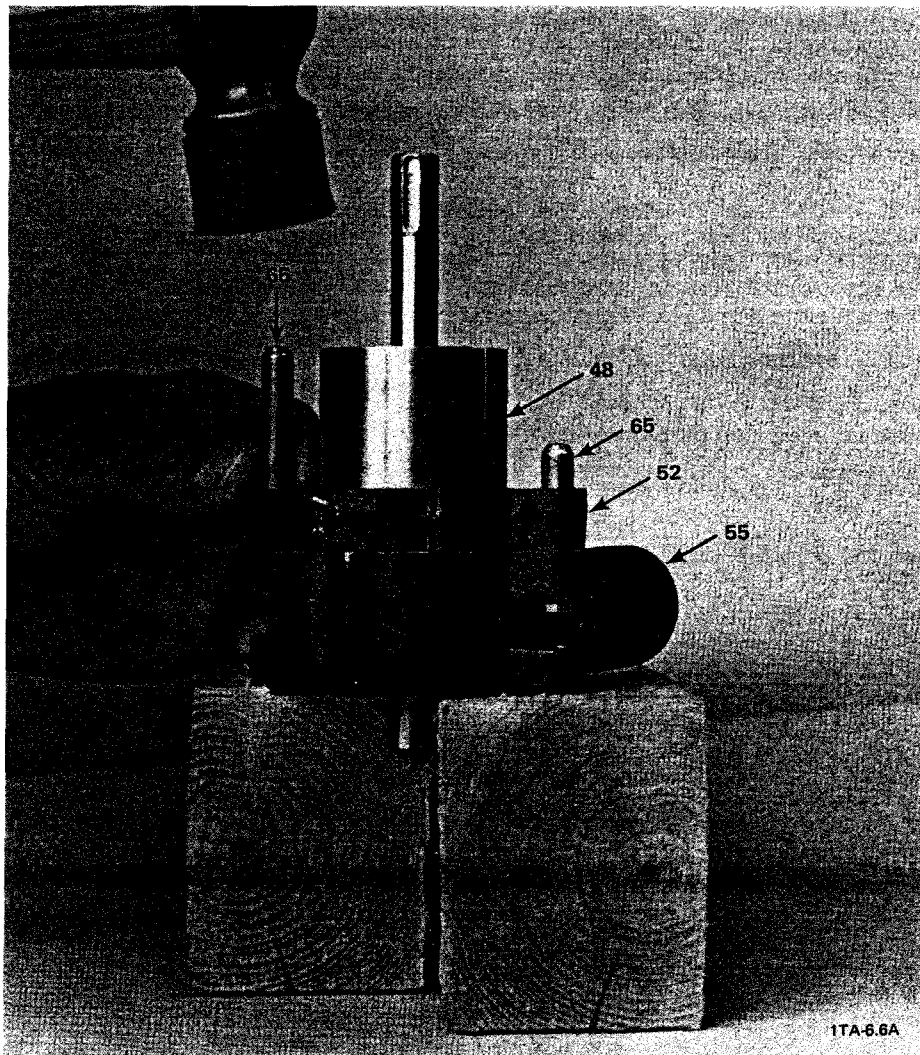

Figure 5-19. Driving the Long Cylindrical Pins that Align the HV Cylinder and the Center Bearing (D2A Pump Model Shown)
- a. Place the high vacuum (HV) stage cylinder (55) so that it is lying flat with the intake tube portion (the top) on the right facing away from you (see Figure 5-19). Fit an O-ring (47) into the O-ring groove on the cylinder (55) surface that is facing up.
- b. Attach the assembly that you put together in Step F-5 to the HV stage pump cylinder (55) as follows:
Step F-5 b (Cont'd.) (1) Take the Step F-5 assembly and insert its HV-stage end (the end that has two pulling holes on the outside end of the rotor) down into the HV stage cylinder (55) until the center bearing plate (52) rests against the HV stage cylinder (55) (see Figure 5-19).
(2) Align the two alignment holes in the center bearing plate (52) with the two upper alignment holes on the HV stage cylinder (55). (See Figure 5-19).
(3) **NOTE:** When driving the two long cylindrical pins (65) into the alignment holes, the flat end (nonbeveled end) of the pins (65) should face the HV cylinder (55). The HV cylinder is the one with the intake tube portion.
REQUIRED ACTION: Using a rubber hammer, hit the beveled end of the pins to drive the two long cylindrical pins (65) down through the two alignment holes in the center bearing plate (52), then through the two upper alignment holes in the HV cylinder (55) until the flat end of each pin extends just out of each upper HV-cylinder alignment hole (see Figure 5-19).
(4) Ensure that the center bearing plate (52) and the HV stage cylinder (55) are tight against each other and that they remain tight throughout the module assembly sequence.
c. Place the second stage pump cylinder (46) so that it is lying flat with the top edge (the flat portion that has the screw holes, exhaust holes, and gas ballast hole) on the right facing away from you. Fit an O-ring (47) into the O-ring groove on the cylinder (46) surface that is facing up.